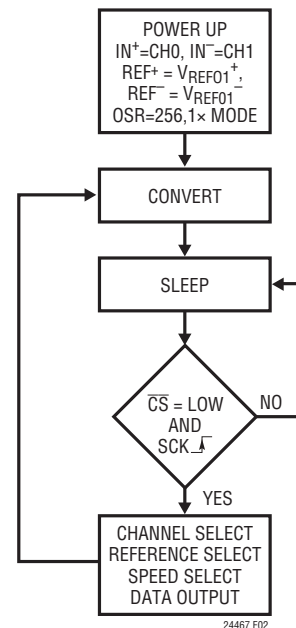

Figure 2. LTC2446/LTC2447 State Transition Diagram
The LTC2446/LTC2447 are multichannel, multireference high speed, delta-sigma analog-to-digital converters with an easy to use 3- or 4-wire serial interface (see Figure 1). Their operation is made up of three states. The converter operating cycle begins with the conversion, followed by the low power sleep state and ends with the data output/input (see Figure 2). The 4-wire interface consists of serial data input (SDI), serial data output (SDO), serial clock (SCK) and chip select (CS). The interface, timing, operation cycle and data out format is compatible with Linear's entire family of $\Delta\Sigma$ converters.